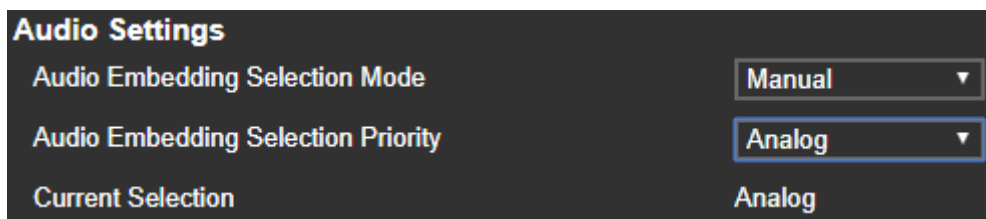

Figure 8: TP-594Txr Video and Audio Page – Analog Audio to Receiver Settings
4. Under Audio Settings (Figure 8):